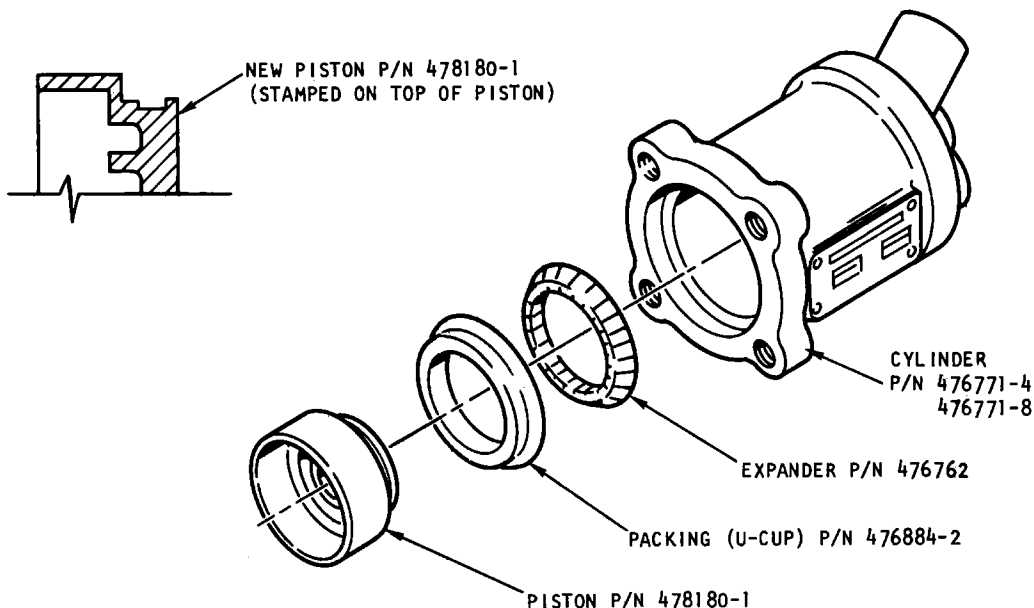

Figure 1. Affected parts in installation of Piston, Packing (U-Cup) and Expander
7. Using packing (U-Cup) insertion tool, P/N 410070, install piston, P/N 478180-1; packing (U-Cup), P/N 476884-2; and expander, P/N 476762 back into cylinder as shown in Figure 1. Insert the new piston, packing (U-Cup), and expander (as a unit) into top (widest opening) of U-Cup insertion tool. Position insertion tool into cylinder bore, and tool should be rotated while inserting piston assembly into cylinder, to center piston. Stroke piston by hand three to four times to assure packing (U-Cup) is moving freely prior to reassembling cylinder to cylinder plate.
8. Using new gasket (P/N 476773), reinstall cylinder onto cylinder plate with the four (4) 1/4-20 x 1 in. bolts and lockwashers.
11. Reinstall modified bypass valve back on aircraft using two (2) new stainless steel gaskets supplied by Lycoming (P/N 75845).